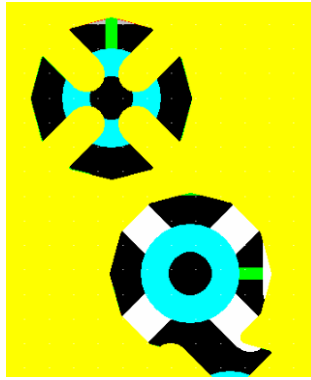

Fig.: 13 Via Clearance
**Setting via to via clearance:** If the clearance between vias is too small, SPECCTRA can't create copper planes over the whole size of those two vias, cf. Fig.13. You can set a global pcb rule for the clearance between vias. This rule is called via-to-via clearance. Add the following command to your do file.